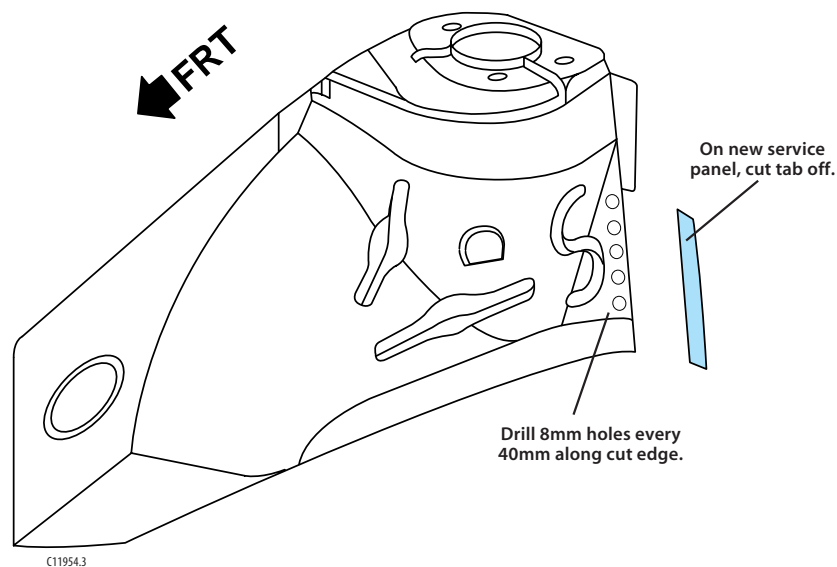

Figure 4-3:
2. Cut the flange off the service part that is normally welded to the cowl panel (figure 4-3).